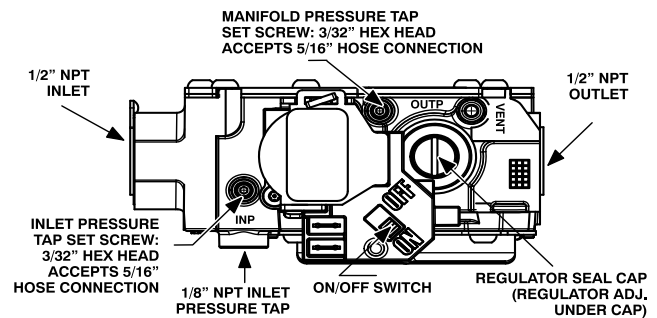

Fig. 64 – Gas Valve with Tower Pressure Ports
1. Adjust manifold pressure to obtain proper gas input rate. See Fig. 64.
screwdriver) counterclockwise (out) to decrease input rate or clockwise (in) to increase input rate. See Fig. 64.